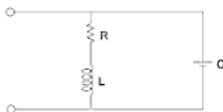

Fig. A1-27
- Define bandwidth and quality factor of a parallel resonance circuit. Derive the expression of resonance frequency of the circuit shown in Fig. A1-27.